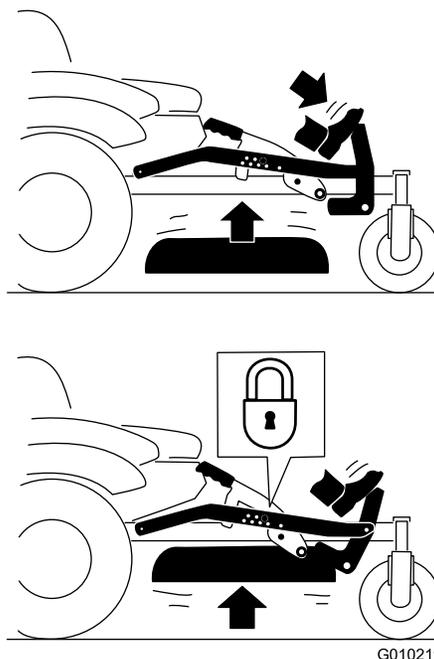

Figure 27
- Press the pedal down to raise the deck; continue to press the pedal until the deck is locked in the transport position (Figure 27).
- Push on the deck lift pedal with your foot and raise the height-of-cut lever slightly to disengage the transport lock (Figure 27).
4. Push on the deck lift pedal with your foot and raise the height-of-cut lever slightly to disengage the transport lock (Figure 27).